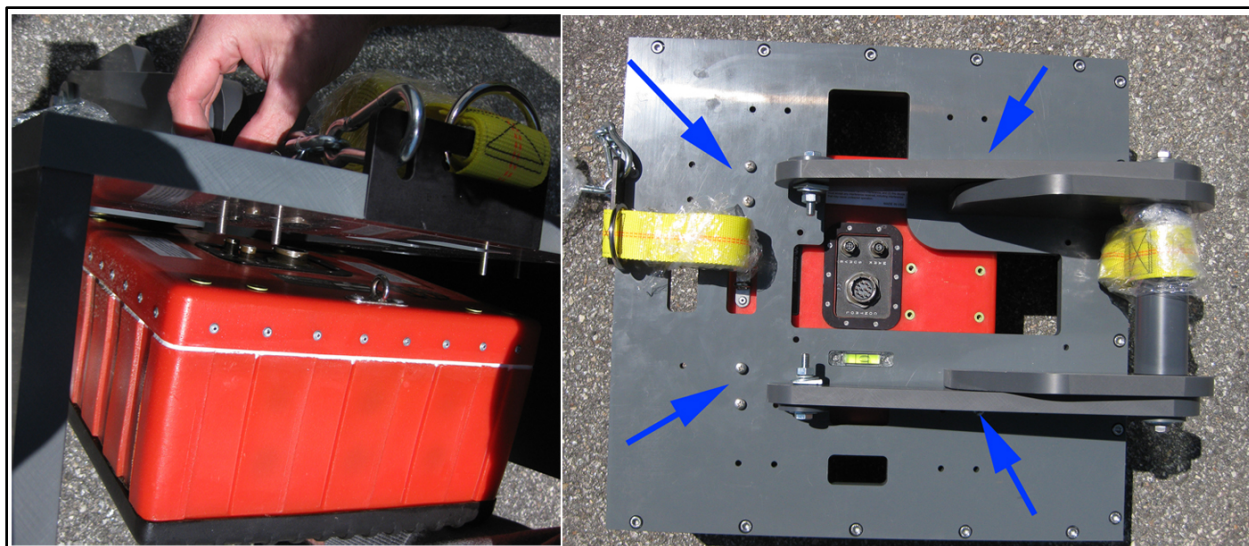

Figure 5: Attaching the 400 MHz antenna with the provided hardware.
- b)** Place the antenna in the mount so that the black arrows on the antenna face forward. Line up the 6 attachment points on the antenna top with the correct set of holes on the antenna mount. Attach the antenna using the M6x35 Phillips screws and M6 flat washers (Figure 5).